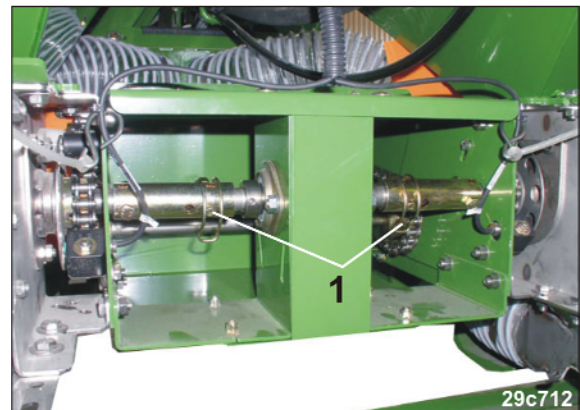

Fig. 116
- The metering on one side of the implement (part-width section) can be switched off by removing the corresponding linch pin (Fig. 116/1).